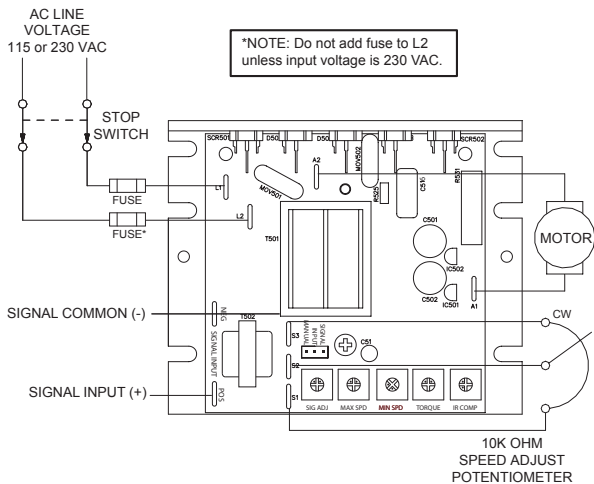

Figure 4. PCM2000A Series Connections
**Minarik Drives strongly recommends the installation of a master power switch in the voltage input line, as shown in Figure 4 (page 12).** The switch contacts should be rated at a minimum of 200% of motor nameplate current and 250 volts.
Connect the AC line power leads to terminals L1 and L2. Minarik Drives recommends the use of a single-throw, double-pole master power switch. The switch should be rated at a minimum of 250 volts and 200% of motor current. Refer to Figure 4 on page 12.
Connect a DC motor to terminals A1 and A2 as shown in Figure 4 on page 12. Ensure that the motor voltage rating is consistent with the drive's output voltage.
Use a 10K ohm, 1/4 W potentiometer for speed control. Connect the counter-clockwise end of the potentiometer to S1, the wiper to S2, and the clockwise end to S3. If the potentiometer works inversely of the desired functionality (e.g. to increase motor speed you must turn the potentiometer counterclockwise), power off the drive and swap the S1 and S3 connections. Refer to Figure 4 on page 12.
Instead of using a speed adjust potentiometer, the drive may be wired to follow an analog input voltage signal that is either isolated or non-isolated from earth ground (Figure 4 on page 12). Connect the signal common (-) to NEG. Connect the signal reference (+) to POS. A potentiometer can be used to scale the analog input voltage. An interface device, such as Minarik Drives model PCM4, may be used to scale an analog input voltage.
For this reason, Minarik Drives strongly recommends installing an emergency stop switch on both AC line inputs (see Figure 4 on page 12).